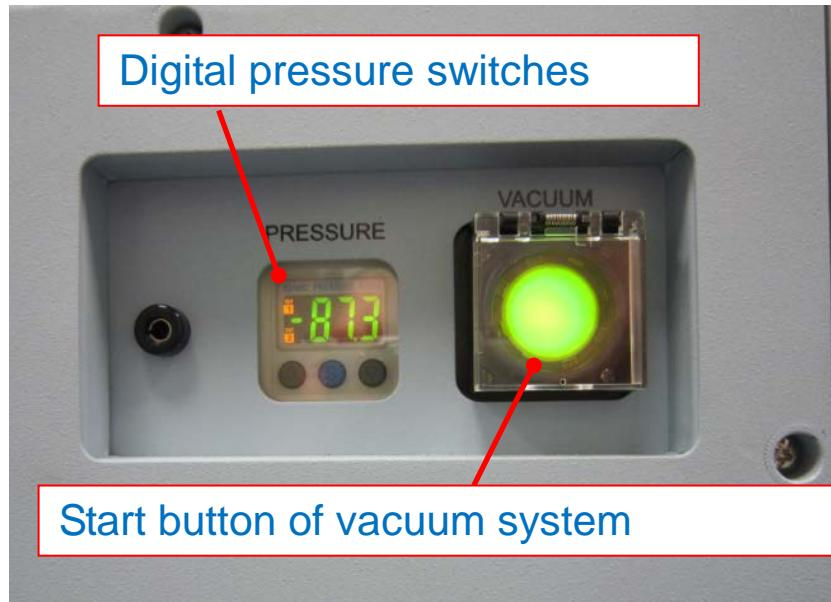

Figure 4-12 Start button of vacuum system
Step 3: Press start button of vacuum system to observe the value of digital pressure switches as *Figure 4-12* shows. It is for distinguishing whether zone A contains air leakage condition.